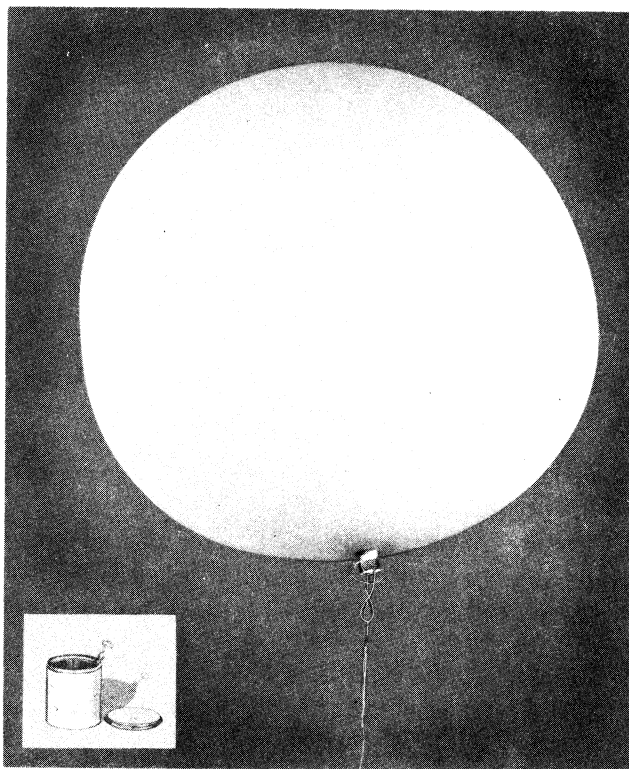

Figure 7—Balloon M-278-A, Inflated with Antenna Attached
d. HYDROGEN GENERATORS. — A hydrogen generator (see fig. 6) is used to inflate the balloon. Upon coming in contact with water, hydrogen is generated by a chemical solid within the container. The hydrogen is supplied to the balloon by means of an inflating tube (see fig. 7).
(1) Generator M-315-A is the original type and has been supplied with all sets to date (July 1943). Its operating time is about 40 minutes, and it is quite
(3) Generator M-315-C is filled with three pounds of calcium hydride. There is no appreciable difference between it and Generator M-315-B as far as use and performance are concerned.
e. BALLOON M-278-A.—This balloon is for raising the antenna when lack of wind does not permit use of the kite. Inflated, its diameter will be approximately 4 feet (see fig. 7).